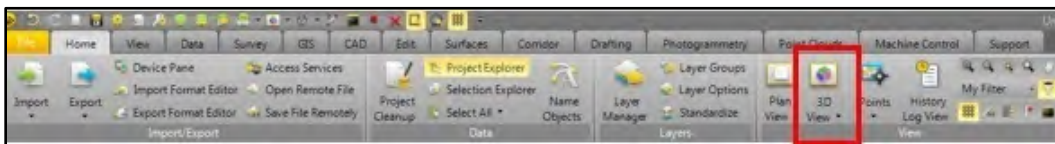

Figure 9.—Trimble Business Center ribbon highlighting the 3D View tool.
- b. Select “3D View” under the “Home” tab (figure 9). This will open a new window within the project where the user can scroll, pan, and rotate data.